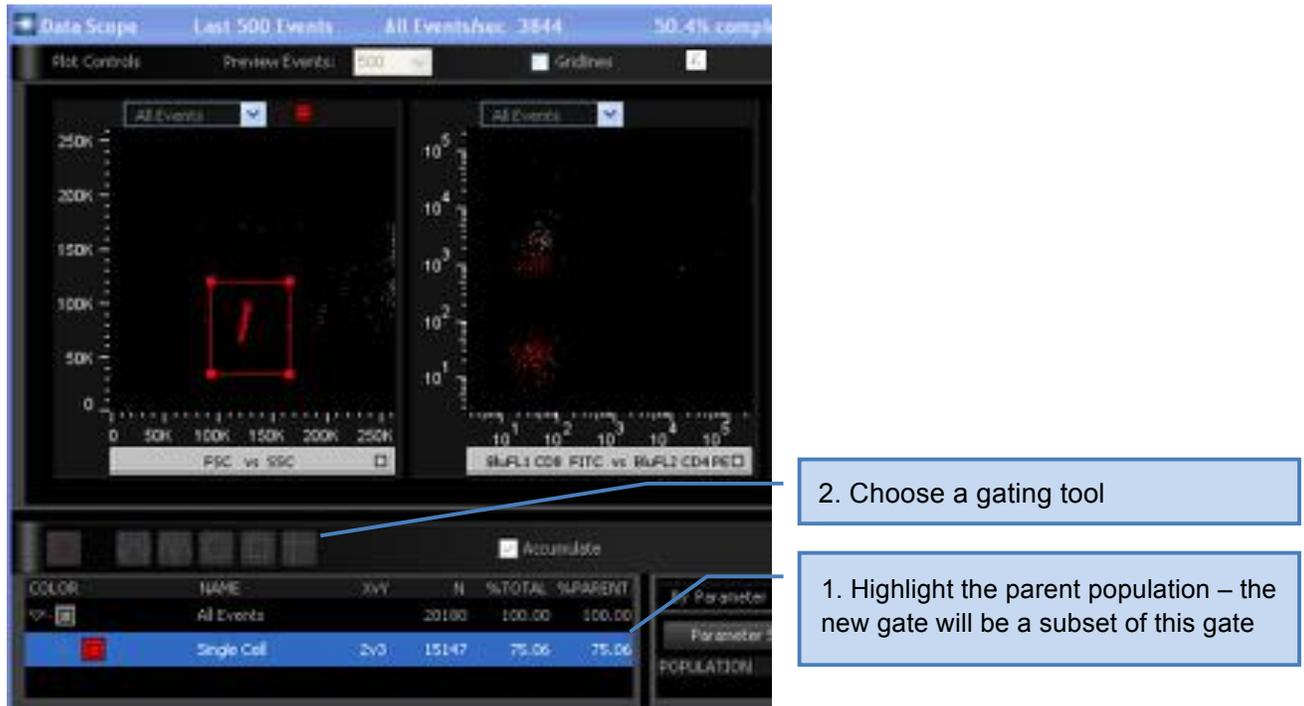

Figure 7.4.1.1
1. Select one parent population row in the Population Hierarchy. Figure 7.4.1.1 shows a sample gate drawn in red on a FSC vs. SSC population named 'Single cell'. To draw a new gate on CD4+ cells (BluFL2+) within this Single Cell gate, click on the parent population (Single cell) in the gating panel.